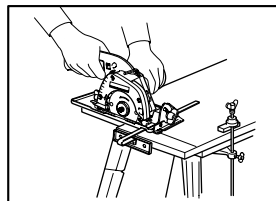

Fig. 4 A typical illustration of proper hand support and workpiece support.
16. **The tool is provided with a front grip (motor housing) and rear handle for two hand operation. Operate with proper hand support and proper workpiece support. WARNING: It is important to support the workpiece properly and to hold the saw firmly to prevent loss of control which could cause personal injury. Fig. 4 illustrates typical hand support of the saw.**